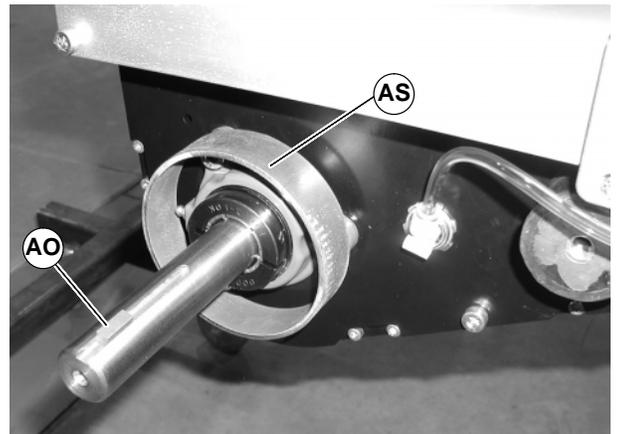

Figure 95
4. Remove spacer ring (AS of Figure 95) and key (AO).